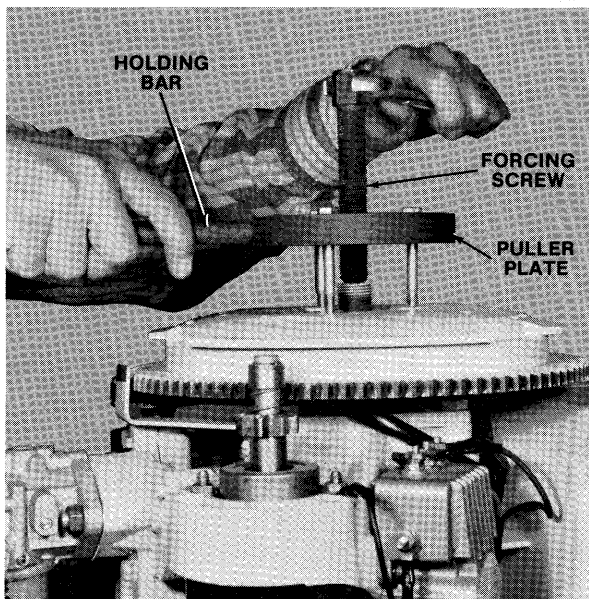

Figure 1 — Flywheel Puller
- C. Turn forcing screw as tight as possible against crankshaft while holding bar to prevent puller plate from turning as shown in figure 1.